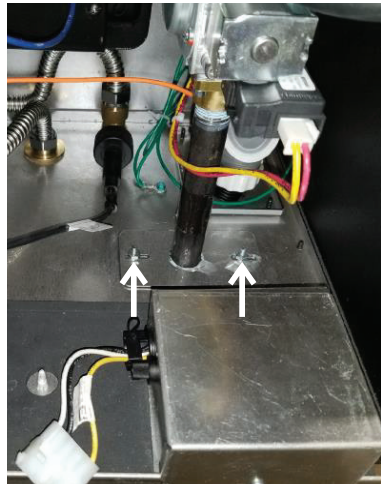

Figure 5
- Remove the (2) 8-32 screws and nuts holding the gas line sealing plate to the bottom jacket panel (Figure 5).